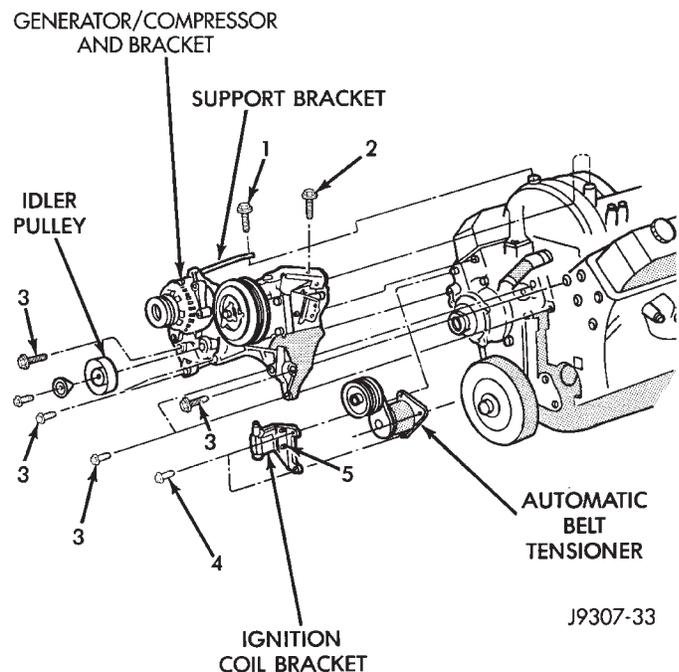

Fig. 40 Generator Support Bracket—5.2/5.9L Engines
(1) Disconnect negative battery cable at battery.
(2) Drain cooling system until coolant level is below thermostat. Refer to Draining Cooling System in this group.
(3) Air Conditioned vehicles: Remove support bracket (generator mounting bracket-to-intake manifold) located near rear of generator (Fig. 40).
- (b) Install support bracket (generator mounting bracket-to-intake manifold) (Fig. 40). Tighten bolts to 54 N·m (40 ft. lbs.) torque.